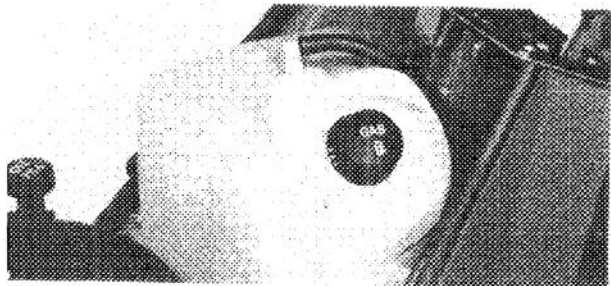

Figure 14
3. Remove cap from fuel tank and fill tank with leaded regular or low lead regular gasoline (Fig. 14). Then install fuel tank cap.